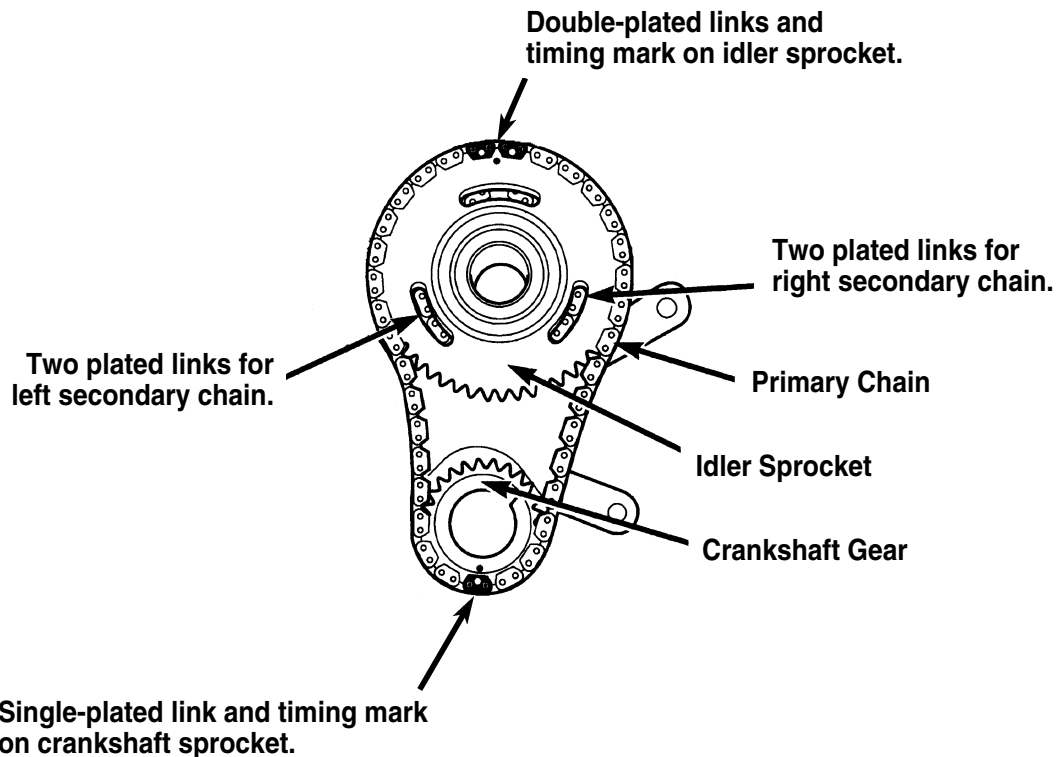

Figure 2
2. Align the primary chain double-plated links with the timing mark at 12:00 on the idler sprocket. See Figure 2.